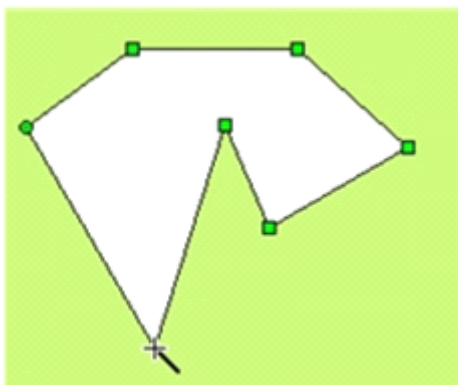

Figure 4-40: Drawing a polygon
- Move the mouse to another position in the screen, and at this moment the system will draw a line automatically. Move the mouse to other appropriate positions, and each time the left key is clicked a side of the polygon will be drawn. Right click the mouse to complete polygon drawing. See Figure 4-40.